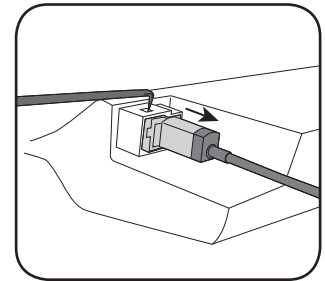

Fig. 1.11
11. Using a pick tool release the clips at the top and bottom to release the USB, remove USB and disconnect the harness. (Fig. 1.11)